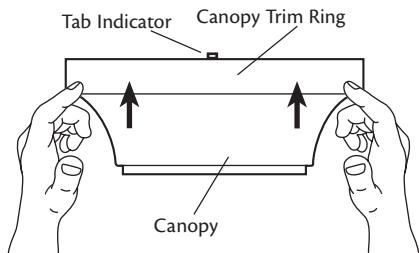

Figure 22 - Removing the canopy trim ring
- Locate the tab indicators, small bumps on top of tabs. Refer to Figure 22.
- To remove the canopy trim ring, press firmly on opposite sides of the ring towards the canopy as shown in Figure 22. The tabs will flex out releasing the trim ring from the canopy.